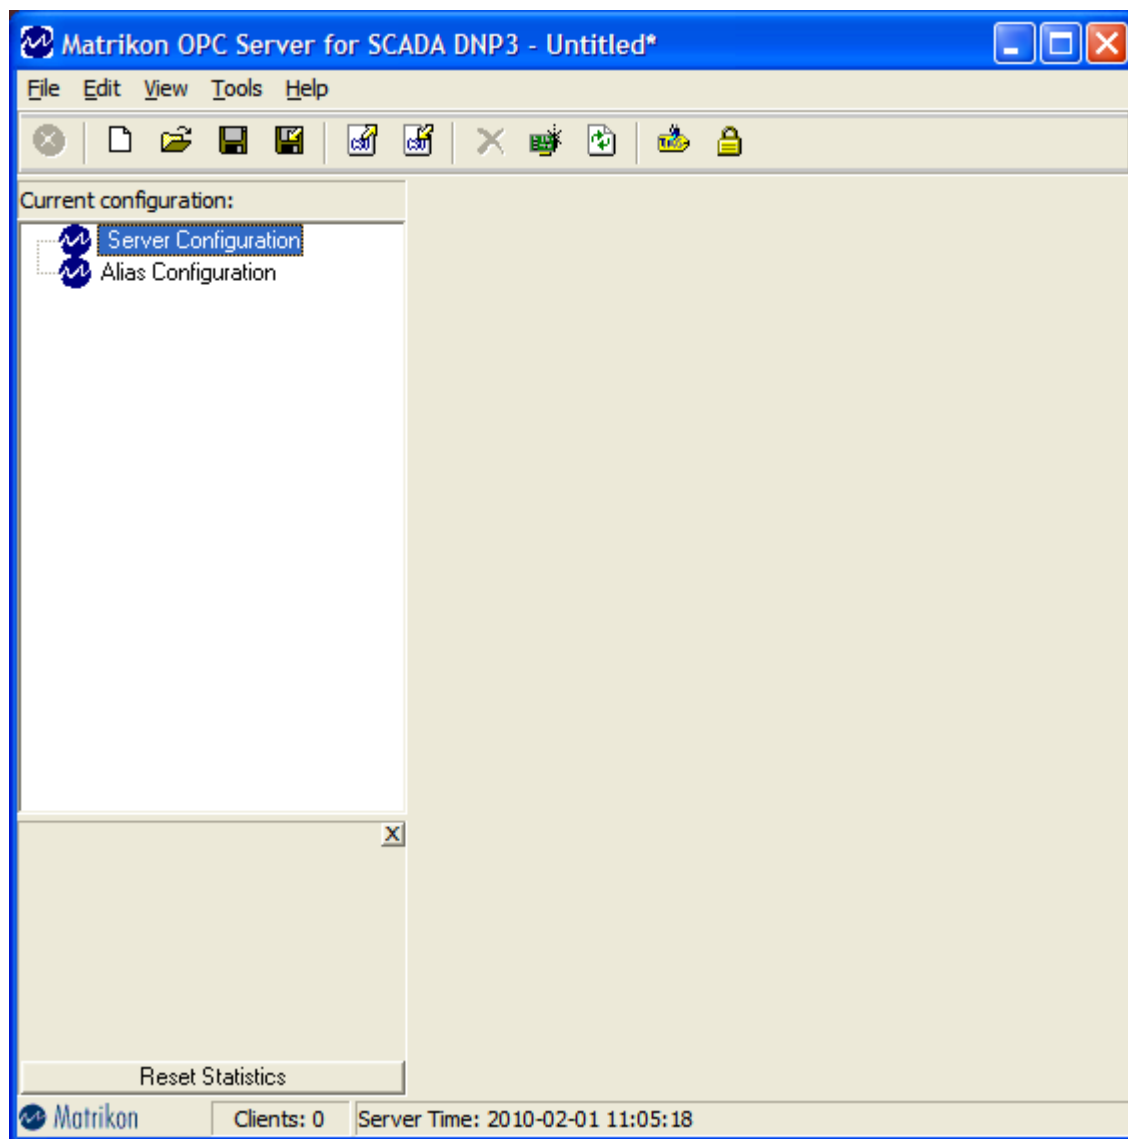

Figure 14 - Configuration Window
2. The **Configuration** window (Figure 14) appears.